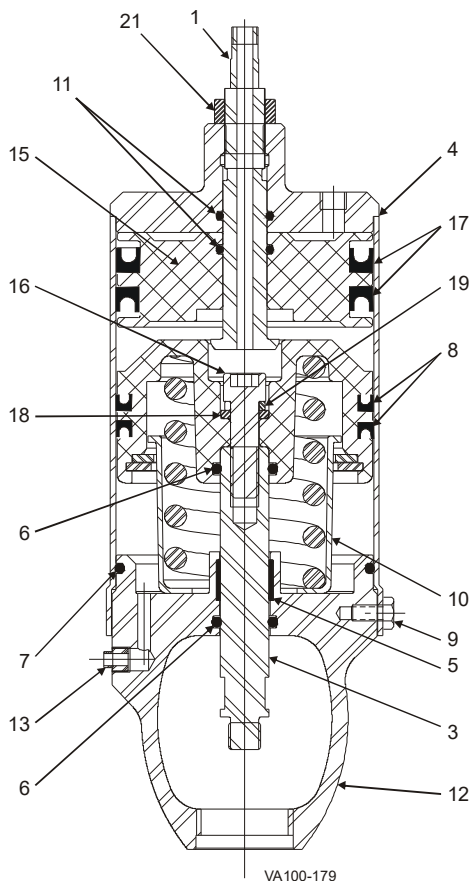

Figure 39: 4" Air-to-Lower 3-Position Actuator
1. Inspect the lower piston U-cup seal (Figure 39, item 8).
2. Remove the worn U-cup seal. Do not score or nick grooves in the piston (item 10).
5. Inspect the stem O-ring seal (item 6).
9. Inspect and replace the PTFE guide bearing (item 5) on the piston as needed.
10. Connect the piston and spring assembly to the stem (item 3) with the bolt (item 16).
11. Assemble the piston and spring assembly to the yoke (item 12).